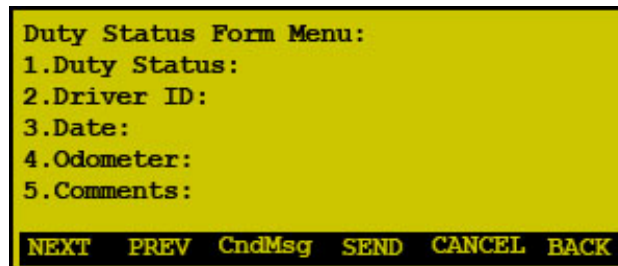

Figure 7: Duty Status Form
- Press the appropriate duty status soft key. The **Duty Status Form** menu, Figure 7, appears.